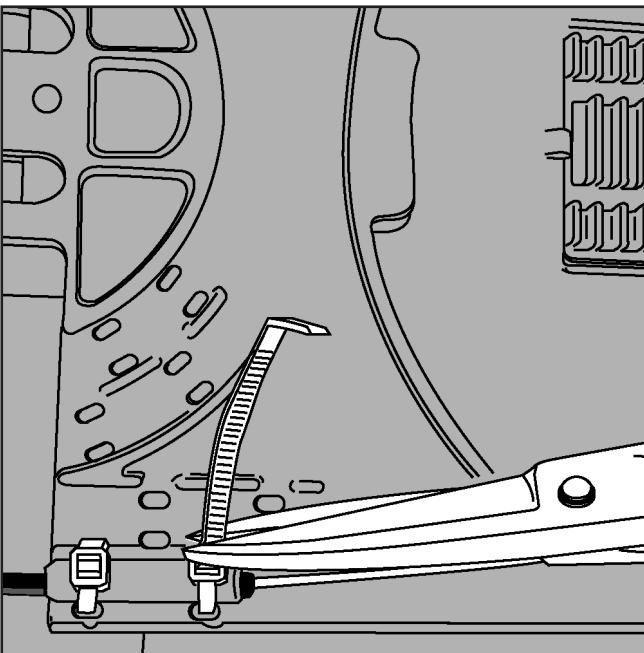

Figure 9
9. With the ties provided, secure the loose buffer tube in two slotted positions on the SLIDE-N-LOCK splice tray over the blue felt. (Figure 9)